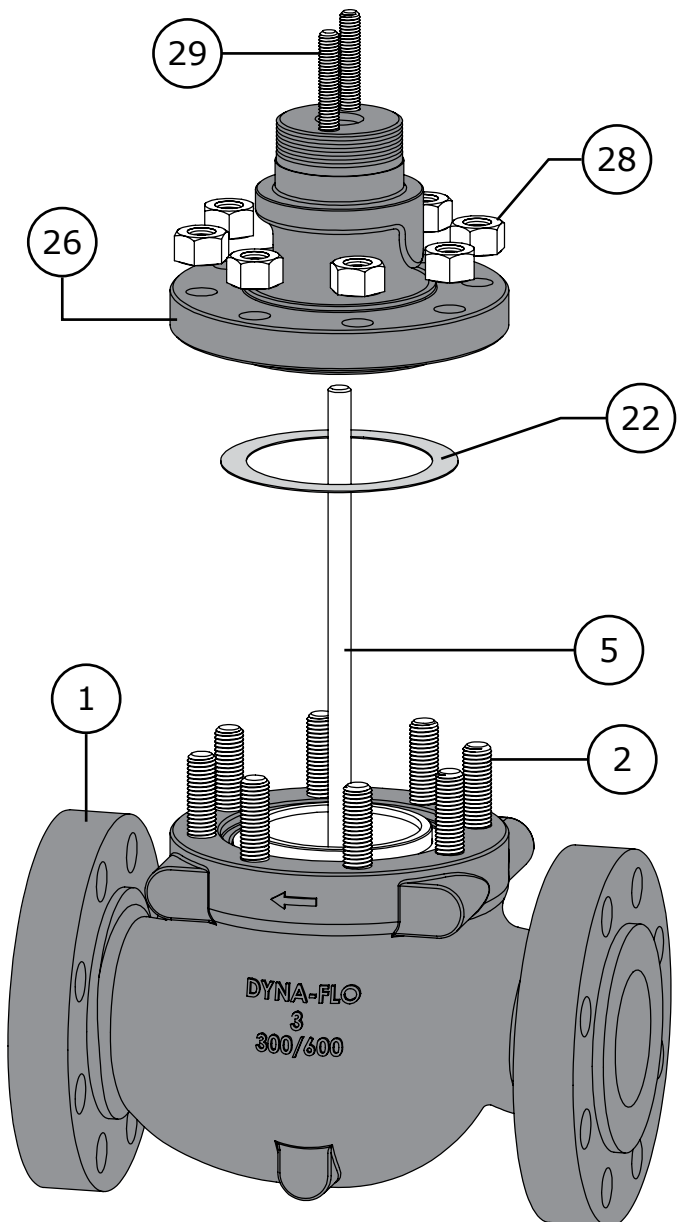

Figure 8 Bonnet Removal (Steps 3 - 4)
- 3 If no process fluid or gas escapes from the body-to-bonnet joint proceed by completely removing the bonnet nuts (Key 28). Refer to Figure 8.